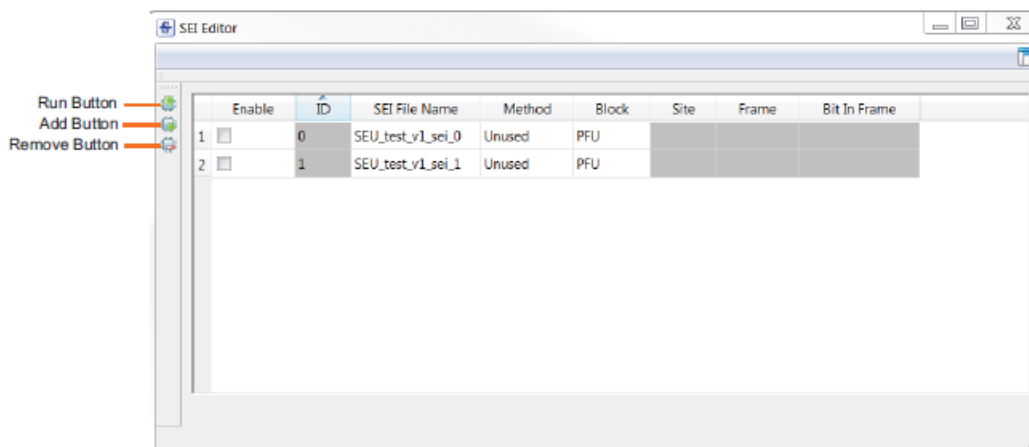

Figure 14.1. SEI Editor
2. Run the SEI Editor (shown in Figure 14.1) under Tools. This allows you to create one frame special bitstream that has one bit different from your original bitstream.